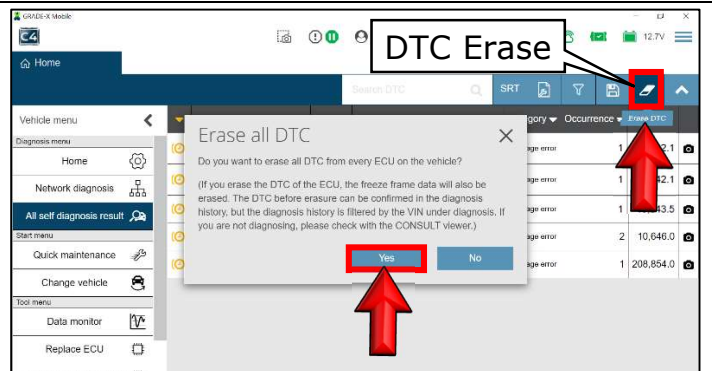

Figure 31
34. Select the erase DTC icon and select **Yes** to erase DTC's. (Figure 31)